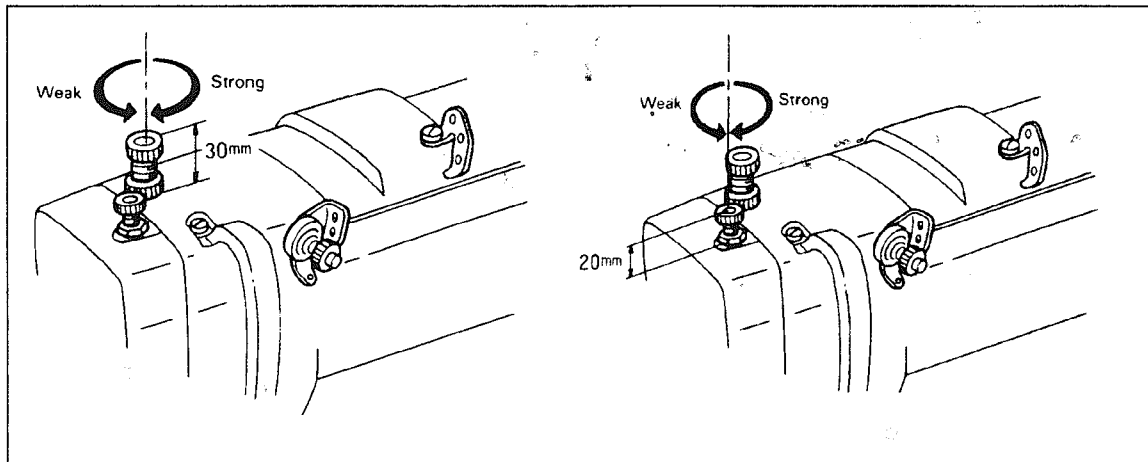

Fig.24
24、 Adjustment of presser pressure (Fig.24):